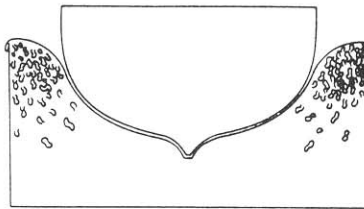

Figure 4.
2. A simpler method suitable for lighter vessels, is to place the craft in a bed of Styrofoam chips (Figure 4). The chips must be checked periodically for settling or crushing. Do not use this technique for vessels with sticky surfaces.